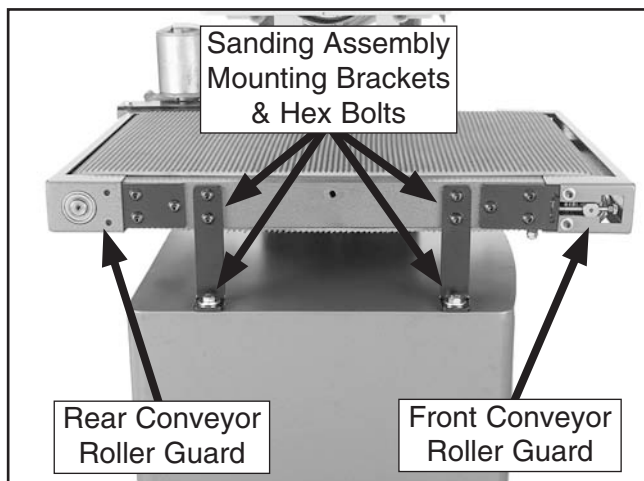

Figure 41. Conveyor roller guards and sanding assembly mounting brackets.
2. Use a 4mm hex wrench to remove the M4-.7 x 10 cap screws and flat washers securing the front and rear conveyor roller guards (see **Figure 41**), then remove the guards.
7. Loosen the four upper button head cap screws securing the sanding assembly mounting brackets to the conveyor (see **Figure 41**).
8. Use a 12mm hex wrench to remove the two $\frac{5}{16}$ "-18 x 1" hex bolts, flat washers, and hex nuts securing the left sanding assembly mounting brackets (see **Figure 41**).